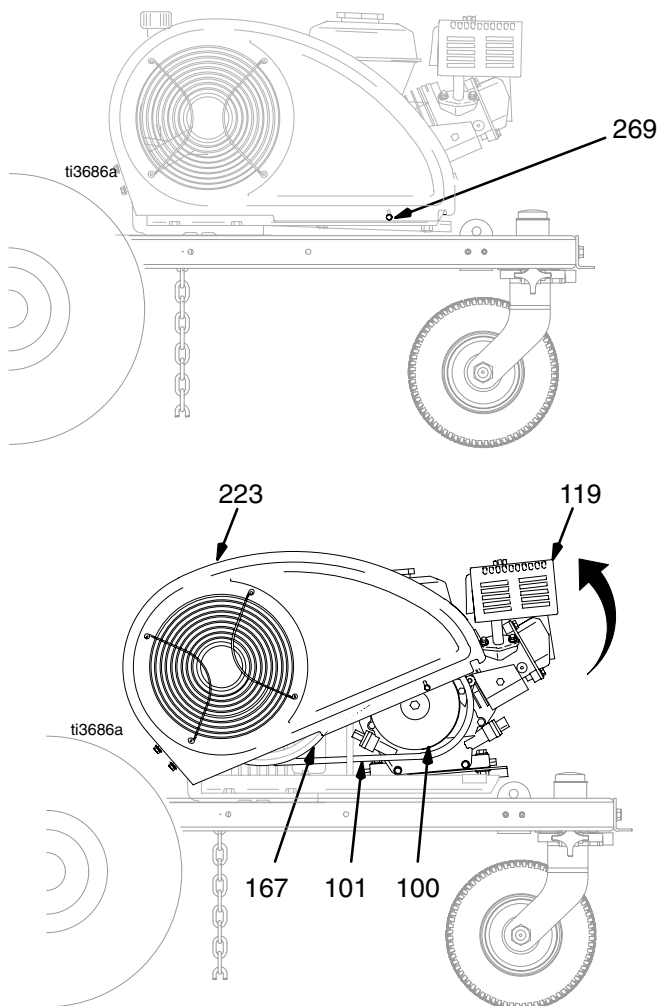

Fig. 5
3. Fig. 5. Remove screw (269).
4. Rotate belt guard (223) up.
5. Lift engine (119) up to remove tension on belt (101).
6. Remove belt from fan pulley (167) and drive pulley (100).